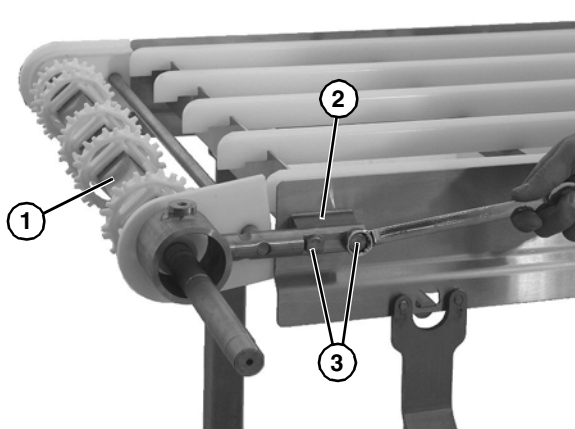

Figure 15
1. Install drive tail assembly (Figure 15, item 1) onto the mounting posts (Figure 15, item 2) and secure with two bolts (Figure 15, item 3) on each side.